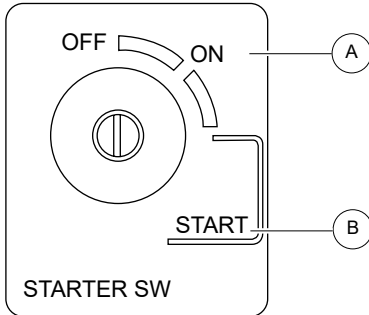

Figure 3-3.Engine Run/Stop Switch
4. Electric Start: Turn the key clockwise to the " START " position (B, **Figure 3-3**), release the key as soon as the engine starts. It will return to the On position (A, **Figure 3-3**)